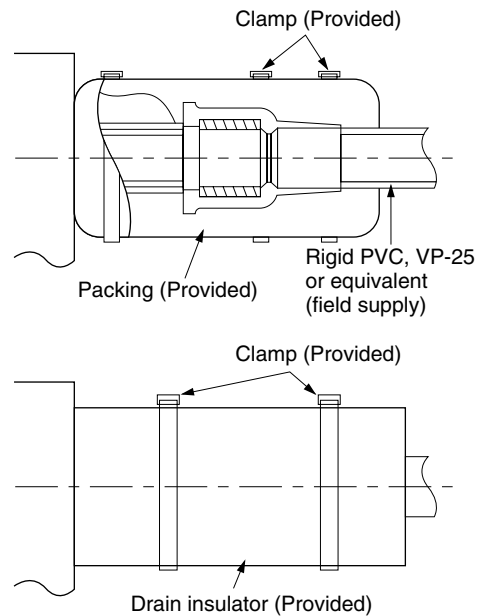

Fig. 3-195
- (1) The drain tube connection size is R1 (25A). Prepare standard hard PVC pipe VP25 (O.D. 32 mm) for the drain and use the supplied hose band to prevent water leaks. The PVC pipe must be purchased separately.
- (2) After connecting the drain piping securely, wrap the supplied packing and drain pipe insulator around the pipe, then secure it with the supplied vinyl clamps. (Fig. 3-195)